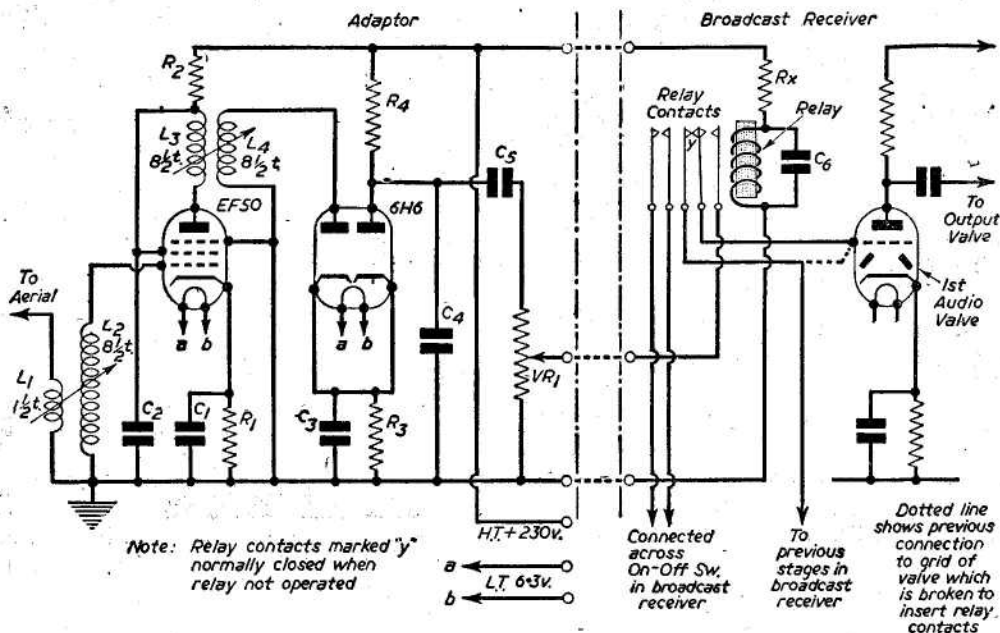

Fig. 1—Circuit of the adaptor, showing relay wiring.
**T**HIS adaptor is designed to be used in conjunction with an ordinary broadcast receiver. The circuit is shown in Fig. 1, and it will be noted that a relay is used for switching purposes.